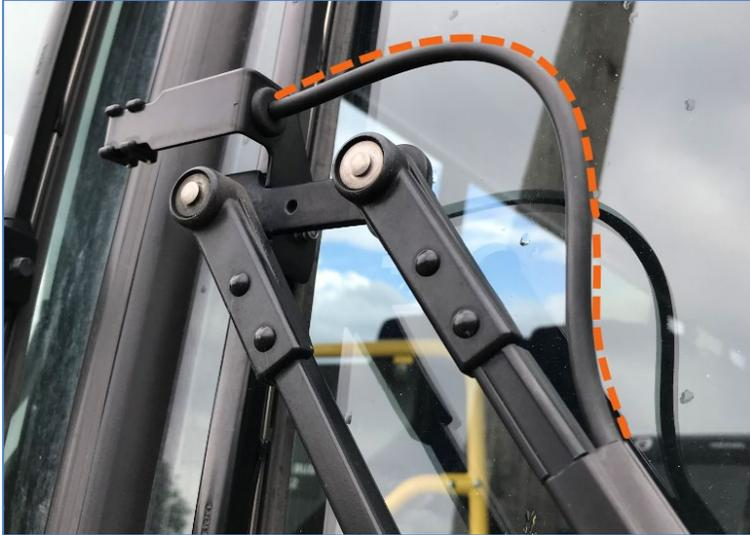

Figure 6 : STREET SIDE WIPER ARM
4. On the street side wiper arm assembly, route the windshield washer as shown and connect to the nozzle (Figure 6).